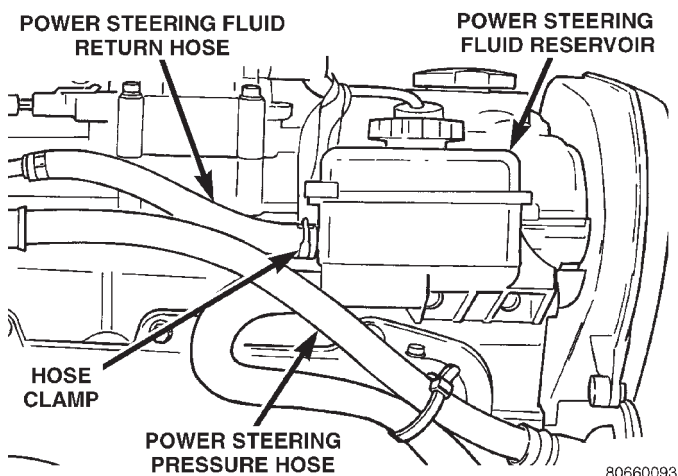
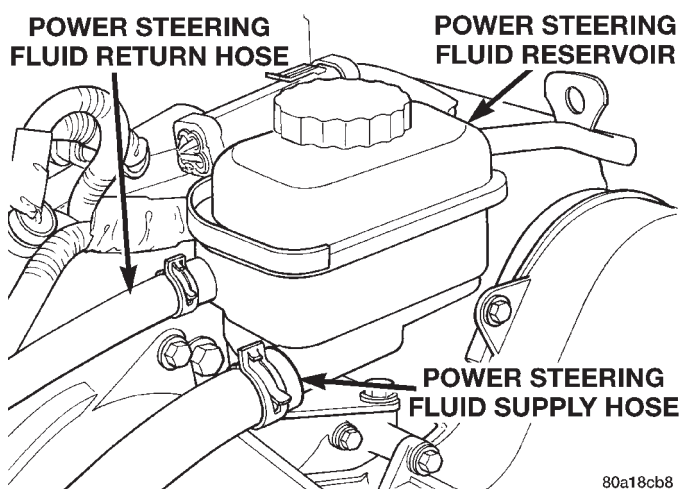

Fig. 15 Power Steering Fluid Return Hose At Reservoir 2.4 Liter
Fig. 16 Power Steering Fluid Return Hose At Reservoir 2.5 Liter
(2) Remove power steering fluid return hose from nipple on power steering fluid reservoir (Fig. 15) and (Fig. 16).
(11) Install power steering return hose on power steering fluid reservoir fitting. Install hose clamp on power steering return hose at power steering fluid reservoir (Fig. 15) and (Fig. 16). **Be sure hose clamp is installed on return hose past upset bead on power steering fluid reservoir.**
(12) Start the engine and let run for a few seconds. Then turn the engine off.
(13) Add fluid if necessary. Repeat the above procedure until the fluid level remains constant after running the engine.
(14) Raise front wheels of vehicle off the ground.
(15) Start the engine. Slowly turn the steering wheel right and left, lightly contacting the wheel stops. Then turn the engine off.
(16) Add power steering fluid if necessary.
(17) Lower the vehicle and turn the steering wheel slowly from lock to lock.
(18) Stop the engine. Check the fluid level and refill as required.
(19) If the fluid is extremely foamy, allow the vehicle to stand a few minutes and repeat the above procedure.
(20) After hose is installed, check for leaks at all hose connections.